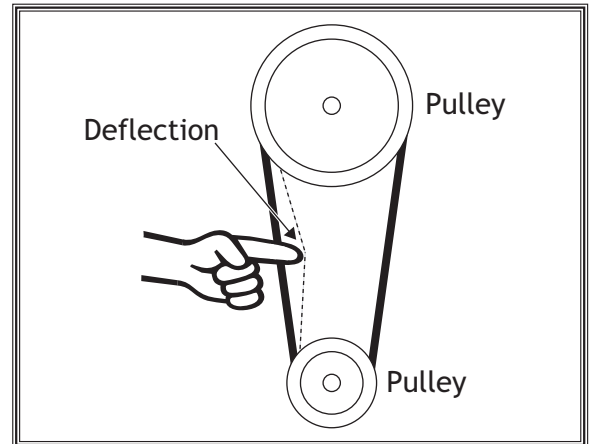

Figure 51. Checking V-belt tension.
4. To tension the V-belt, slide the motor away from the spindle until the V-belt is snug, then tighten the bolts. The amount of V-belt deflection between the pulley should be approximately 1/4" when moderate pressure is applied, as illustrated in **Figure 51**.